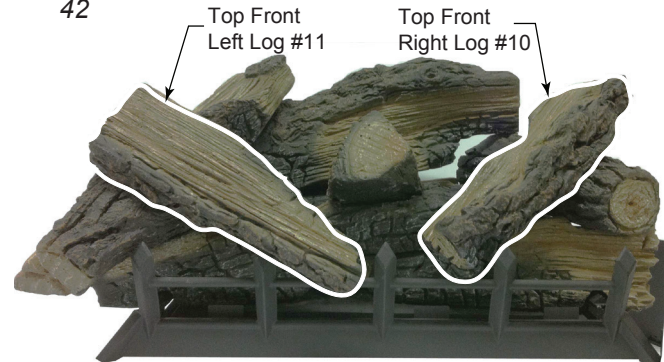

Figure 42
- Place top front right log (#10) onto mid right log (#6) by placing notch on bottom of log onto locating block on log #6. Rest bottom end of log onto grate bar. *Figure 42*
- Place top front left log (#11) onto mid left log (#8) by placing notch on bottom of log onto locating block on log #8. Rest bottom end of log onto grate bar. *Figure 42*